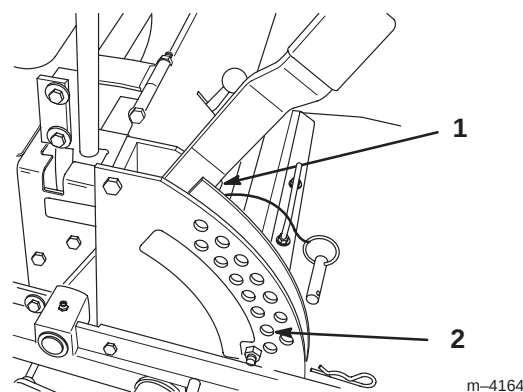

Figure 46
2. Check tire pressure of all four (4) tires. If needed, adjust to 13 psi (90 kPa)
4. Raise the deck to the transport position and take all force off of the two large deck lift springs by loosening nut in front of each spring (Fig. 46).
5. Place two 2" (51 mm) thick blocks under rear left and right lower edge of mower. Place one 2-1/4" (57 mm) block under front center lower edge of mower. Lower mower to the 2" (51 mm) height-of-cut position (Fig. 46).
1. Raise deck lift lever to the transport position, (Fig. 46).